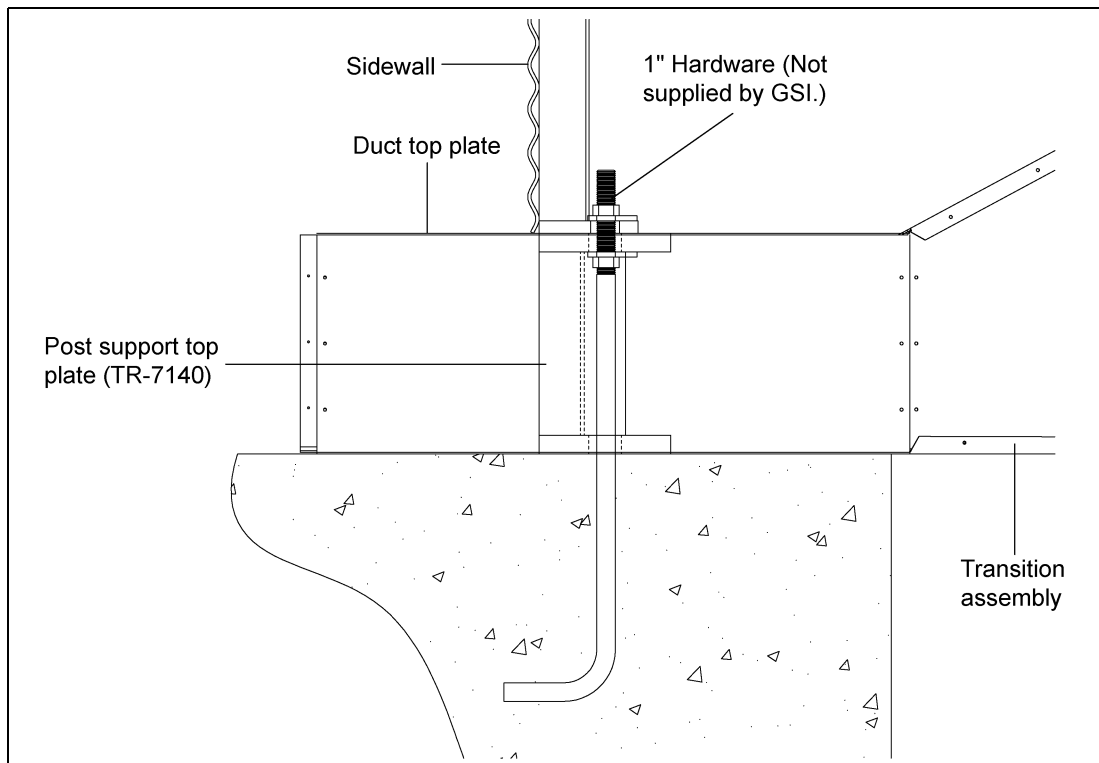

Figure 10
- If pre-cast long anchor bolts are used, attach the base stiffener to the post support using standard nuts and square washers as shown in Figure 10.